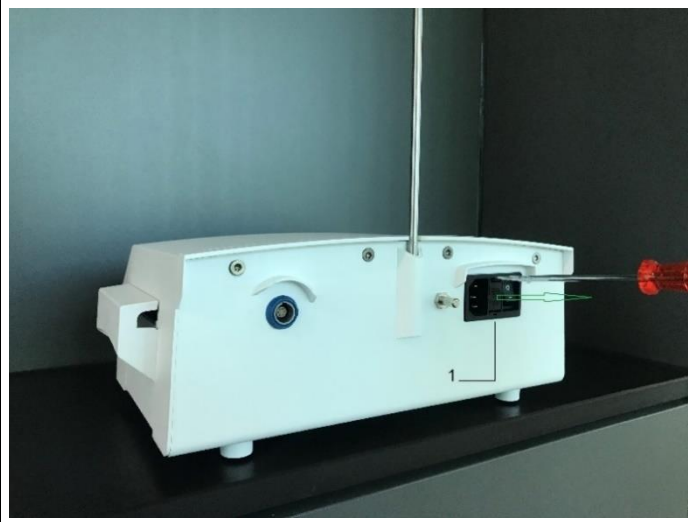

FIG. 1
<p>Fig. 1</p>	<p>A. CHIROPRO L PREMIUM may be positioned on a table, on a trolley or another surface, but in no case on the floor. As the power plug (14) is the disconnection device. It must be easily accessible at all time in case of problems.</p> <p>B. The fuse box (15) may be opened with a screwdriver.</p> <p>100-240 Vac = fuse T-4.0 A L 250 VAC REF 1301560-010</p> <p>C. The apparatus is powered by your line voltage (100/115/230 Vac). Connect the power cable to the plug (14).</p> <p>D. The device can be safely turned off using the main switch (16).</p>
- C. Remove the fuse box (1) with a flat screwdriver. (FIG. 1)